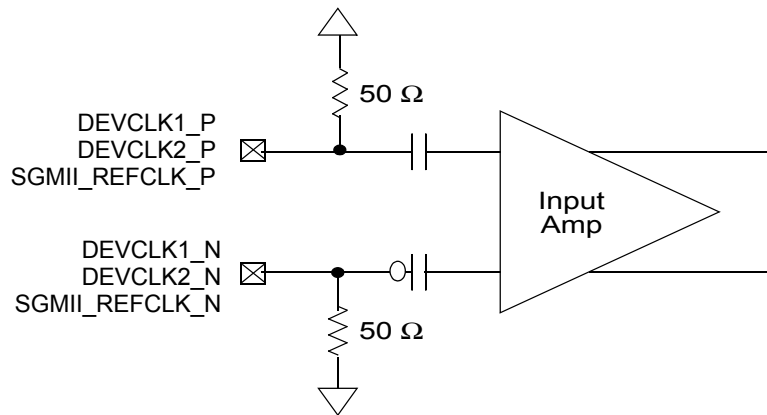

Figure 31. Receiver of SerDes reference clocks
- Pins are internally AC-coupled differential inputs as shown in Figure 31. Each differential clock input has on-chip 50- Ω termination to $SDn_XCOREVSS$ followed by on-chip AC-coupling.